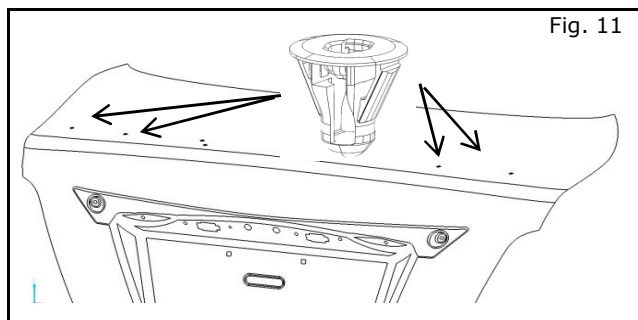

Fig. 11
- d) Install the 4 plastic clips into the trunk lid in the 14.5 mm holes 4 places. (Fig 11)